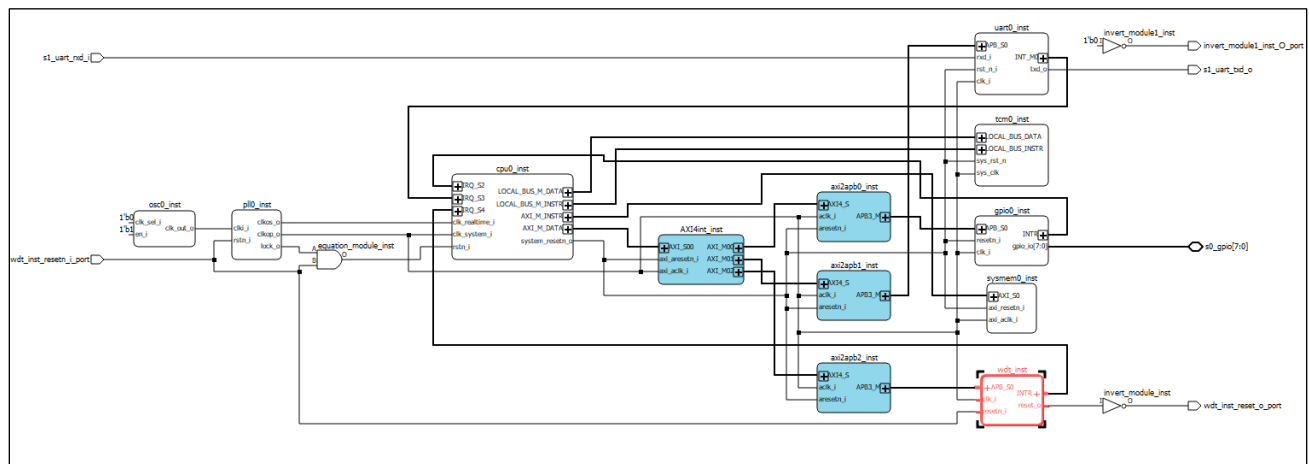

Figure 6.1. Watchdog Timer in Propel SoC Project
- Connect the instantiated IP to the system. Refer to Figure 6.1 for the connections used in this IP. You need to update/add other components of the system for the clock and reset source, interrupts, and bus interface.